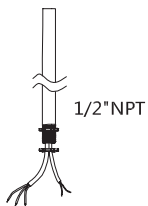

Fig. 8.1
1. Loosen the nuts on 1/2" NPT. (Fig. 8.1/8.2)